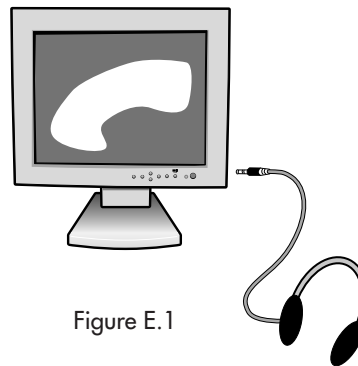

Figure E.1
2. Headphones may be connected to the "Headphones" output on the right side of the monitor (**Figure E.1**). Headphones can be purchased from your local electronics store.